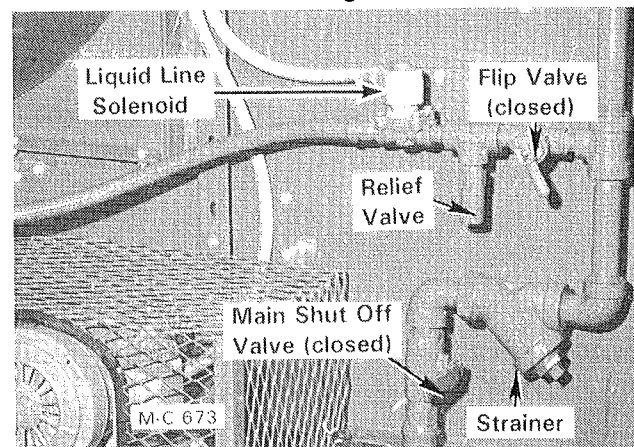

Figure 15
2. **LP Gas** - Close the liquid line flip valve for each burner(s) (handle down). See Figure 15.
1. **LP Gas** - Open the supply valve at the tank and lift up on the dryer liquid line Flip Valve(s) located after the strainer. See Figure 15. The flip valve is open when the handle is 90° to the piping.